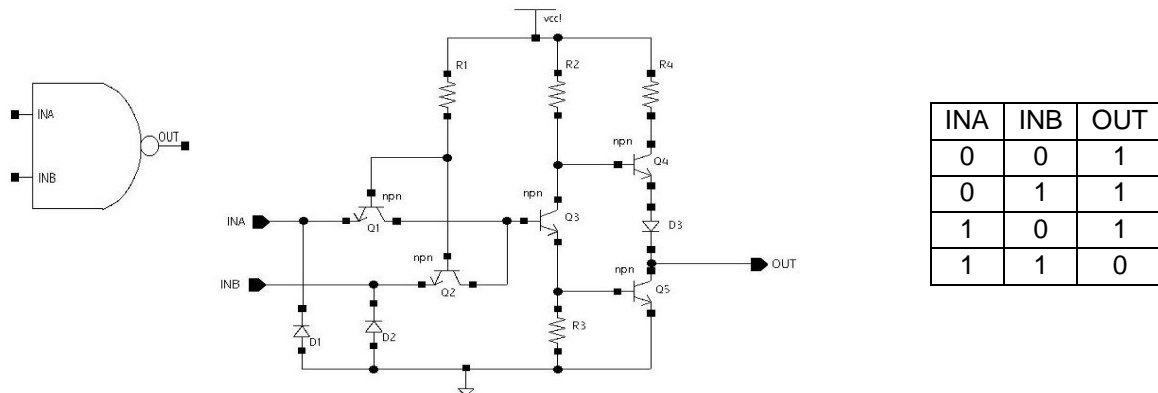

Fig. 2.1. The views of TTL NAND logic cell's symbol, electrical circuit, truth table and input and output signal waveforms
- Build the circuit of TTL NAND logic cell with two inputs based on data of table 3 (Fig.2.1).